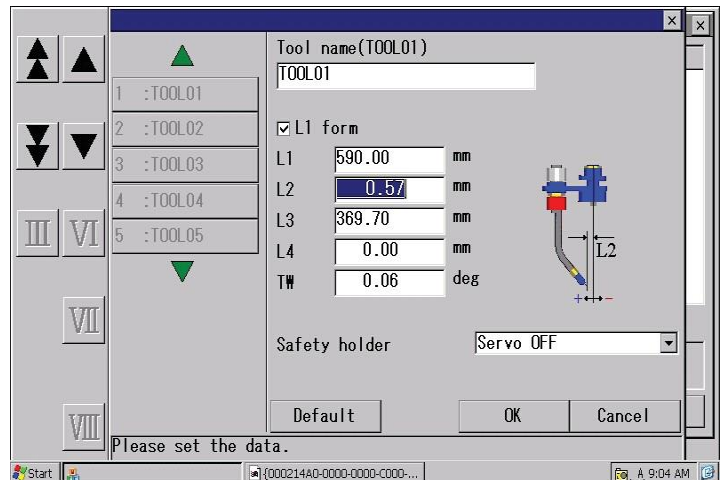

Figure 11
- If the Y-dimension is negative then enter L2 as a positive. If it is positive, then enter L2 as a negative number (Figure 11).